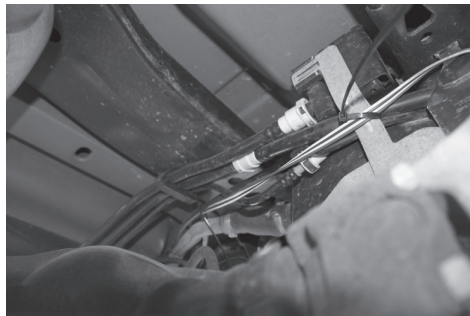

Figure 2
9. Continue routing 4-Flat along the brake lines and frame rail to front of vehicle near driver's side front wheel well securing it along the way with cable ties shown in **Figure 2**.